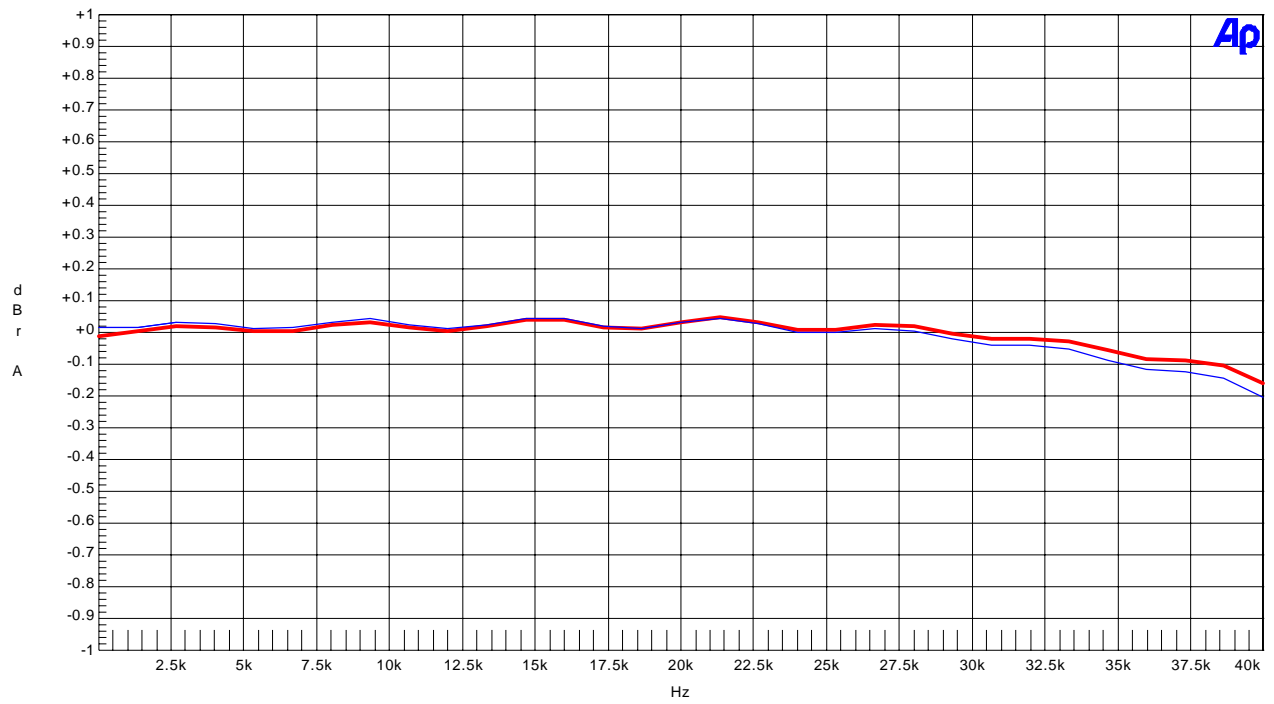

Figure 18. Frequency Response (Input Level=0dBFS)
- Figure 18. Frequency Response (Input Level=0dBFS)